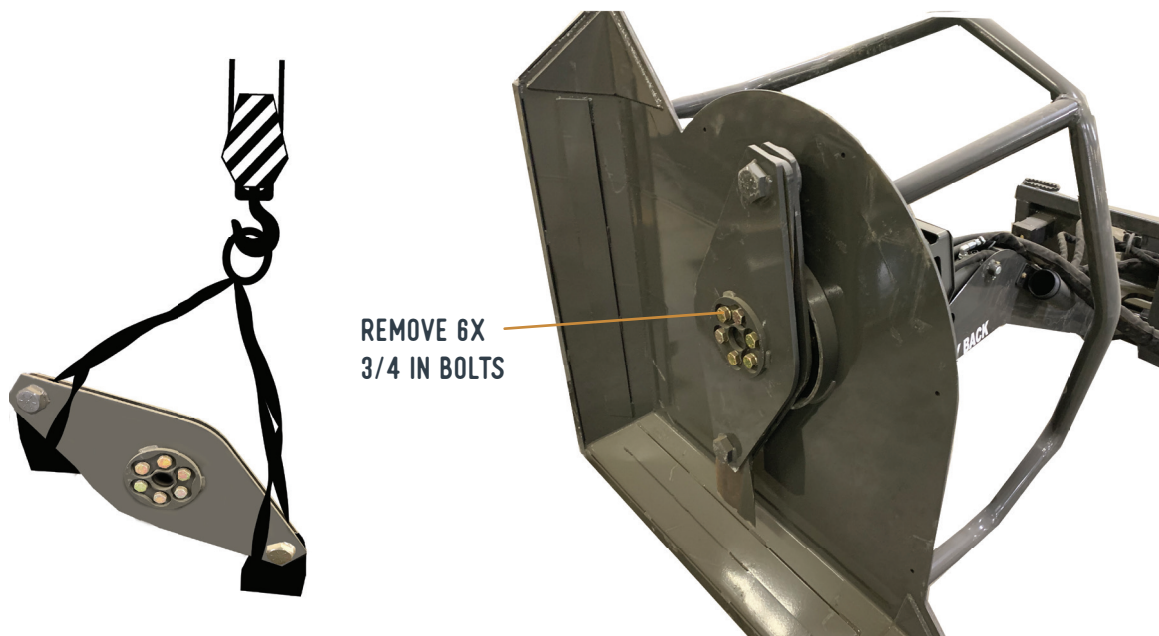

FIGURE 3.4A BLADE HOLDER AND SLING SYSTEM
2. Position the cutter deck in a vertical position to gain access to the blade holder (see figure 3.4a below).